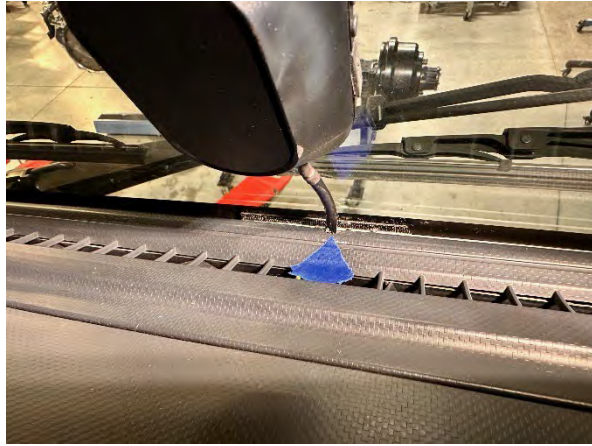

Figure 7
8. Using one (1) inch of masking tape, mark the location near the center of the instrument panel where the Mobileye camera cable goes under the instrument panel. (See Figure 7.)